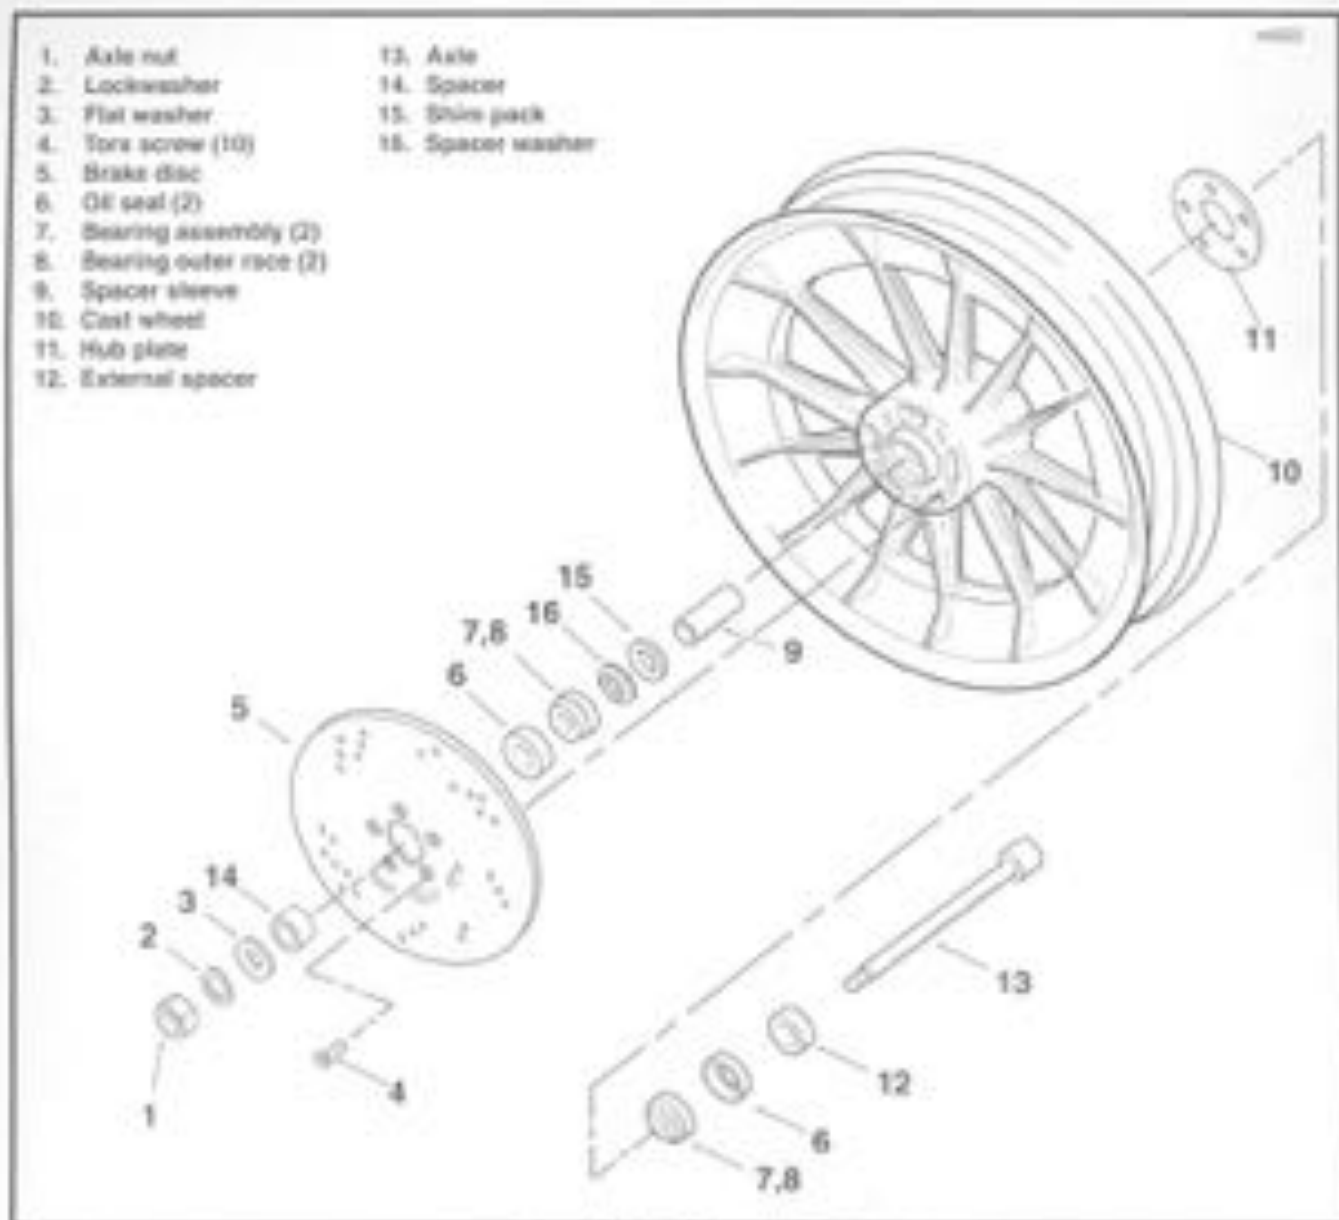
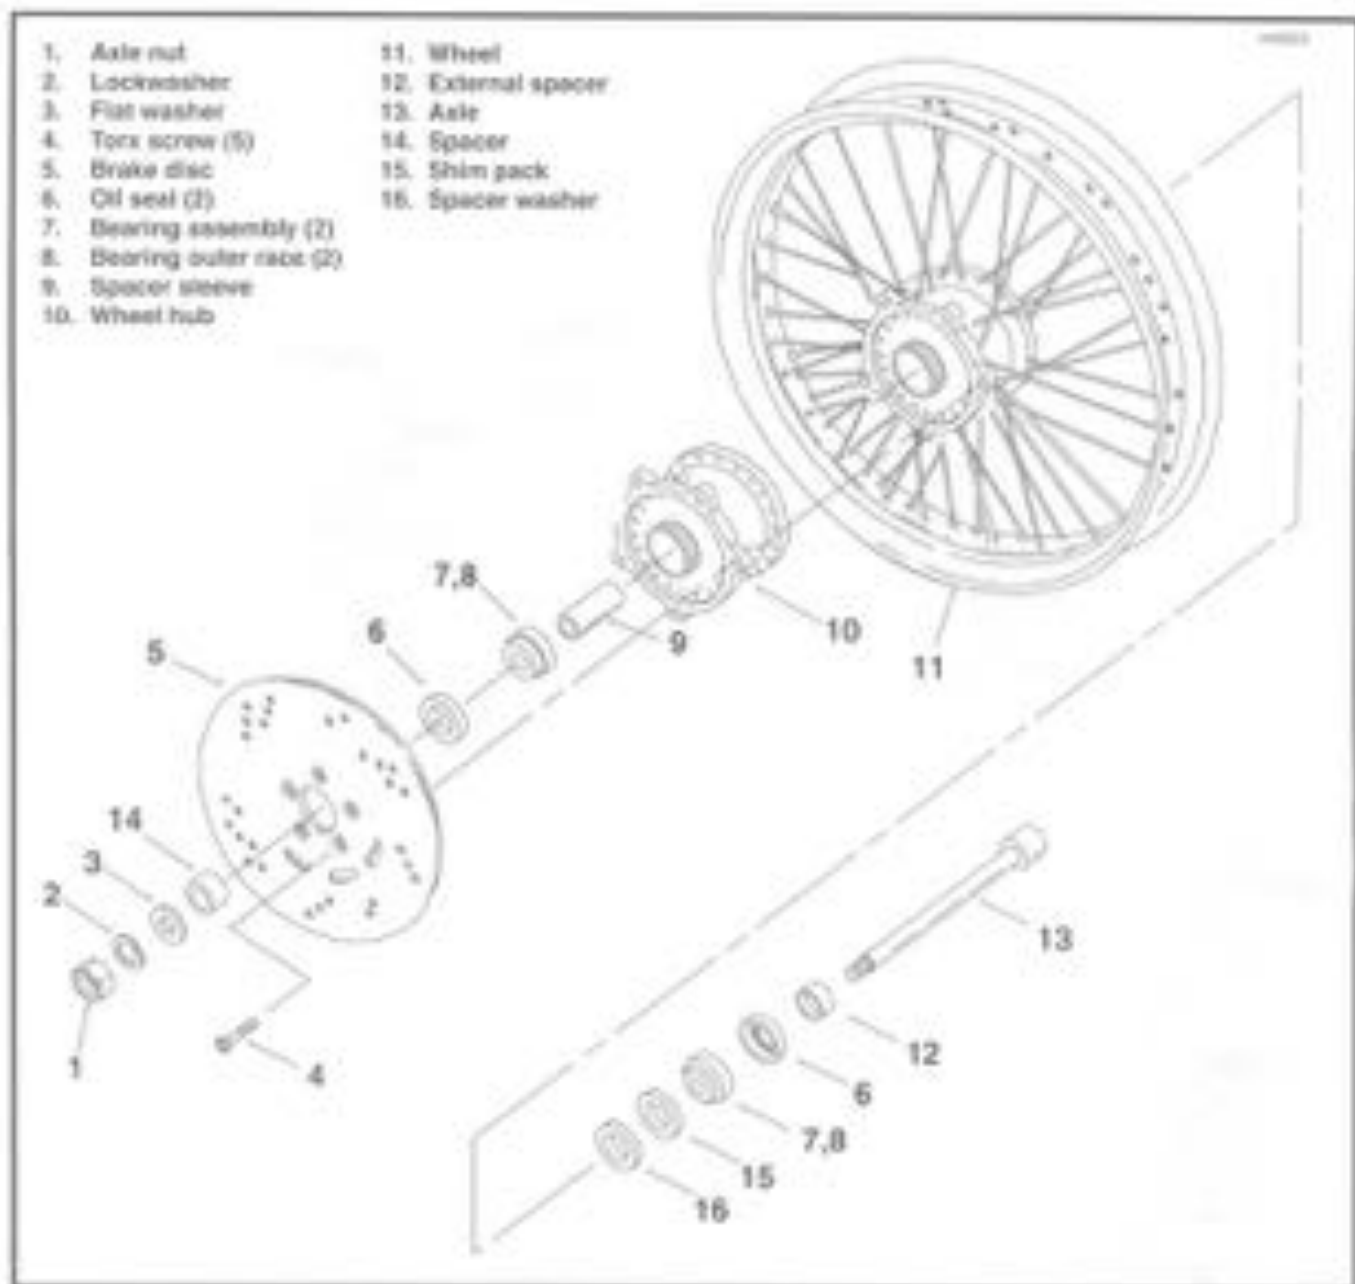

Figure 2-3. Cast Front Wheel
Figure 2-4. Laced Front Wheel
(Figure 2-3, Figure 2-4)
ASSEMBLY (Figure 2-3, Figure 2-4)
2. Verify that the brake disc is thoroughly clean. Install disc on hub aligning notch in disc with 1/4-in. (6.35 mm) diameter hole in hub. Secure disc with new T-40 TORX screws (4). Tighten screws to 16-24 ft-lbs (22-33 Nm) torque.
3. On cast wheels (Fig. 2-4), install hub plate (11) to wheel hub using new T-40 TORX screws, if removed. Tighten screws to 16-24 ft-lbs (22-33 Nm) torque.
4. If removed, press outer races (8) into each side of hub using WHEEL BEARING RACE REMOVER/INSTALLER (Part No. HD-33071A). Apply a liberal amount of bearing grease to bearing outer races after installation.
5. Apply a liberal amount of bearing grease to bearing inner races (7). Pack grease into cavities around rollers. Use of HD-33067 Wheel Bearing Packer is recommended.